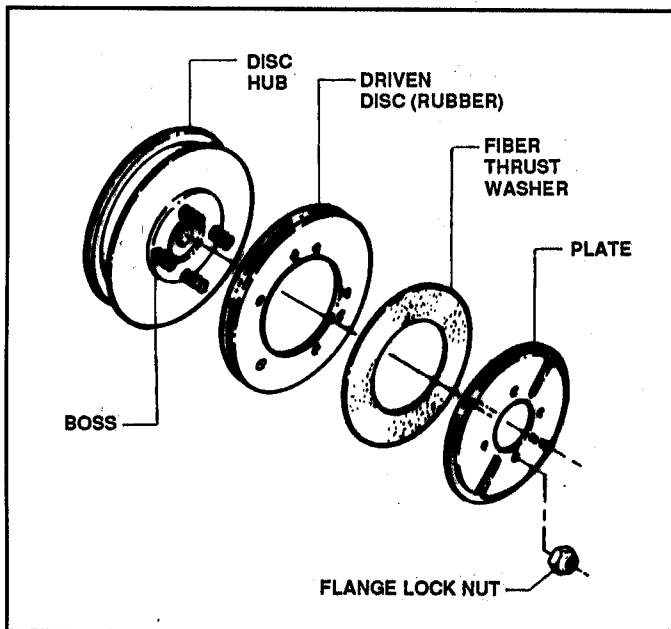

FIGURE 4.15
- B. When installing a new Driven Disc on SMOOTH CLUTCH, make certain that fiber washer is centered over boss hub on center of Driven Disc Hub. See Figure 4.15.